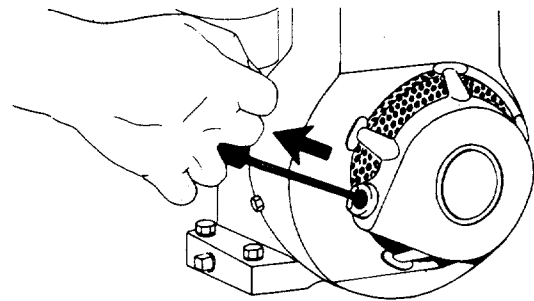

FIGURE 17.
4. Grasp starter handle (see figure 17) and pull rope out slowly until engine reaches start of compression cycle (rope will pull slightly harder at this point). Let the rope rewind slowly.